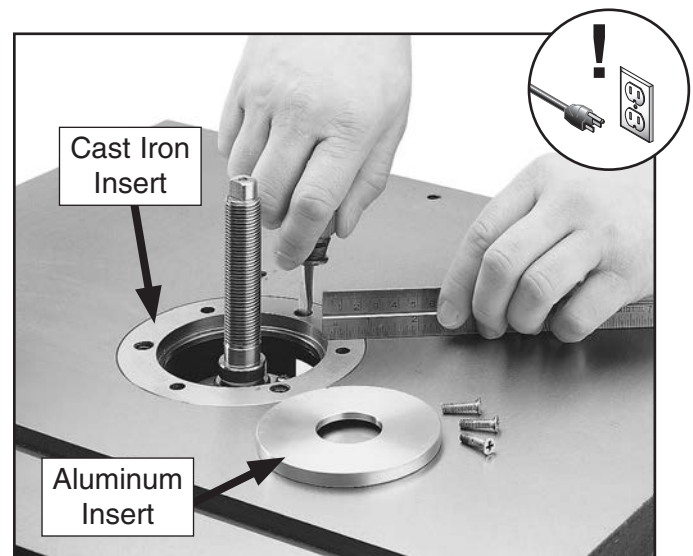

Figure 20. Leveling the cast iron insert.
2. Using a straightedge and a screwdriver, turn the barrel screws clockwise or counterclockwise to level the cast iron insert with the table, as shown in **Figure 20**.